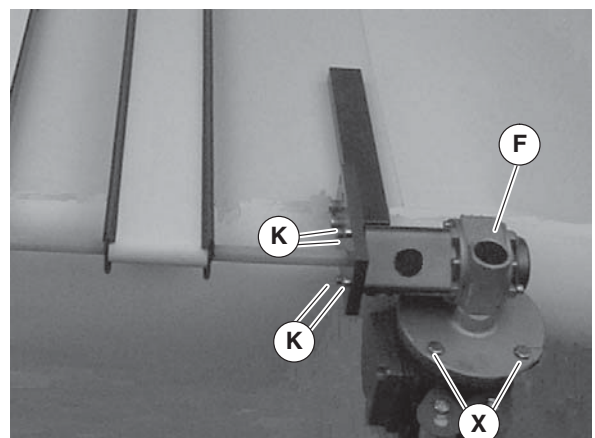

Figure 25
2. Remove four (4) screws (Figure 25, item K) and remove gear motor assembly (F).